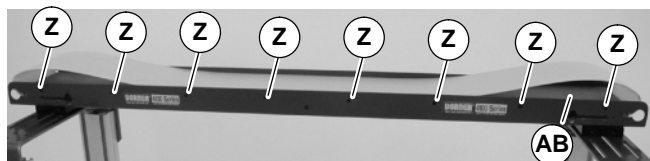

Figure 13
4. Remove screws (Z of Figure 13) on both sides of conveyor and remove bed plate (AB).
3. Attach bedplate (AB of Figure 14) to conveyor frame with screws (Z of Figure 13). Tighten screws to 14 in-lbs.